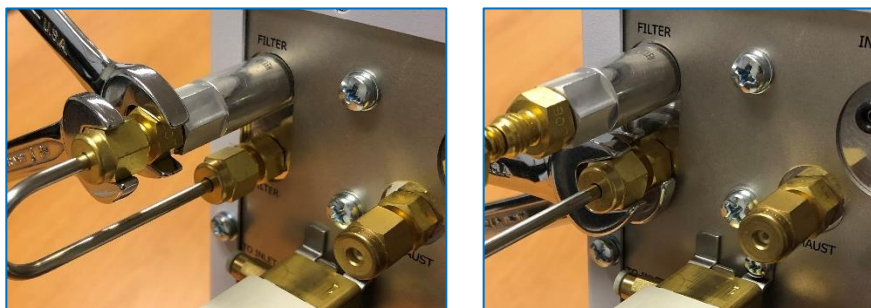

Figure 2.
1. Disconnect the U-shaped filter connection tubing. Use two 7/16-inch spanners as it is shown in Fig. 2. Hold the fitting screwed into the filter while unscrewing the nut holding the U-shaped tubing (Fig. 2, left).
2. Unscrew the opposite end of the U-shaped tubing using the same spanners (Fig. 2, right).
7. Connect the U-shaped filter connection tubing back. **Use two 7/16-inch spanners as it is shown in Fig. 2.**